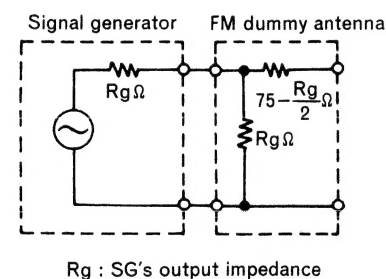

Fig. 3
3. FM dummy antenna shows Figure 3.